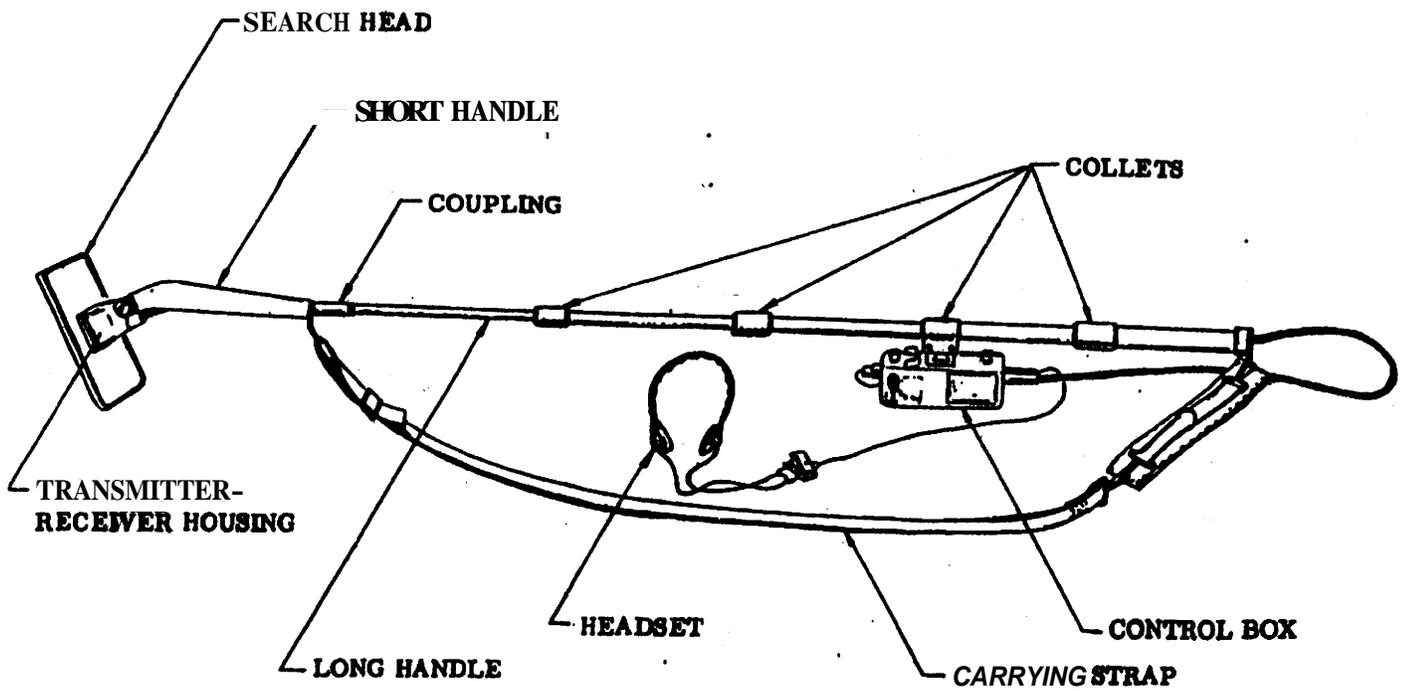

Figure 1-2. Mine Detector (Assembled)
b. Mine Detector. The mine detector, shown in figure 1-2, is a portable dynamic system capable of detecting buried nonmetallic and metallic objects, specifically, buried antitank and antipersonnel mines. It is battery powered and stored in a carrying case when not in use. The presence of a mine is indicated audibly through a headset. The mine detector comprises the subassemblies described in paragraphs (1) through (4) below.
(1) Search Head Assembly. The search head assembly consists of two transmitting antennas, a receiving antenna and transmission lines mounted on a laminated glass cloth plate. In addition, a transmitter and a receiver are mounted in a housing on the search head. A rubber bumper is mounted around the search head as a protective device. The search head assembly generates and radiates multiple chopped radio frequency signals and receives and detects these signals.
(2) Handle Assembly. The handle assembly consists of a short handle, a long handle, a transmitter-receiver housing, and attaching hardware. The short handle is attached to the search head by means of the transmitter-receiver housing and can be adjusted and held at the most convenient angle for use by means of a friction clutch arrangement. The long handle, consisting of five nesting tubular aluminum sections, fastens to the short handle by means of a bayonet coupling. It can be extended to any intermediate length between approximately 19 inches (0.48m) and 57 inches (1.45m) and is clamped at the adjusted position by means of the knurled collets on each section. This handle is ordinarily used in the normal walking search operation, allowing the operator to hold the search head about 4 feet (1.2m) away from his body.
(1) Long handle Attachment. Attach the long handle to the short handle by means of the quick-disconnect bayonet coupling. Engage and compress spring-loaded coupling and twist 1/4 turn clockwise.
(2) Carrying Strap Attachment. The carrying strap assembly is comprised of a long strap and a short strap. If the carrying strap is used, snap the hook of the long strap around the handle just below the coupling. Attach the short strap across the chest between the right and left straps of the suspenders. Attach the snap at the other end of the long strap to the ring in the center of the short strap. (See figure 2-3.) If suspenders are not worn, the short strap can be attached to the end of the long strap and the remaining end of the short strap can then be snapped to the attachment eye at the top of the long handle. (See figure 1-2.)